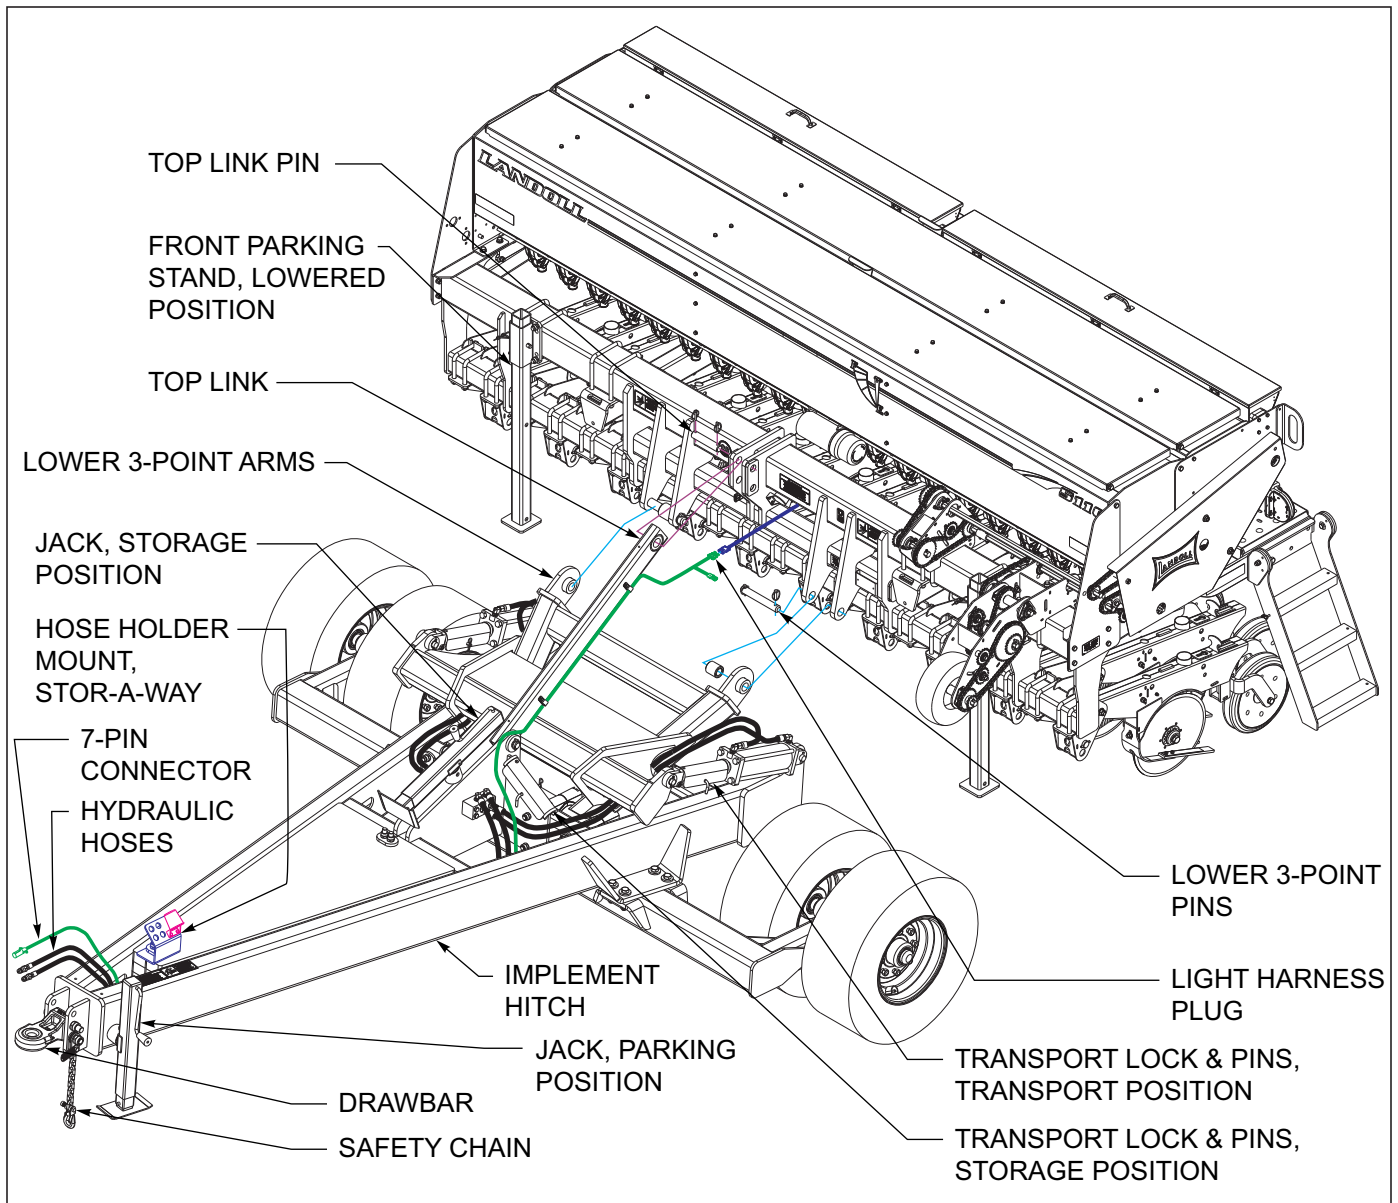
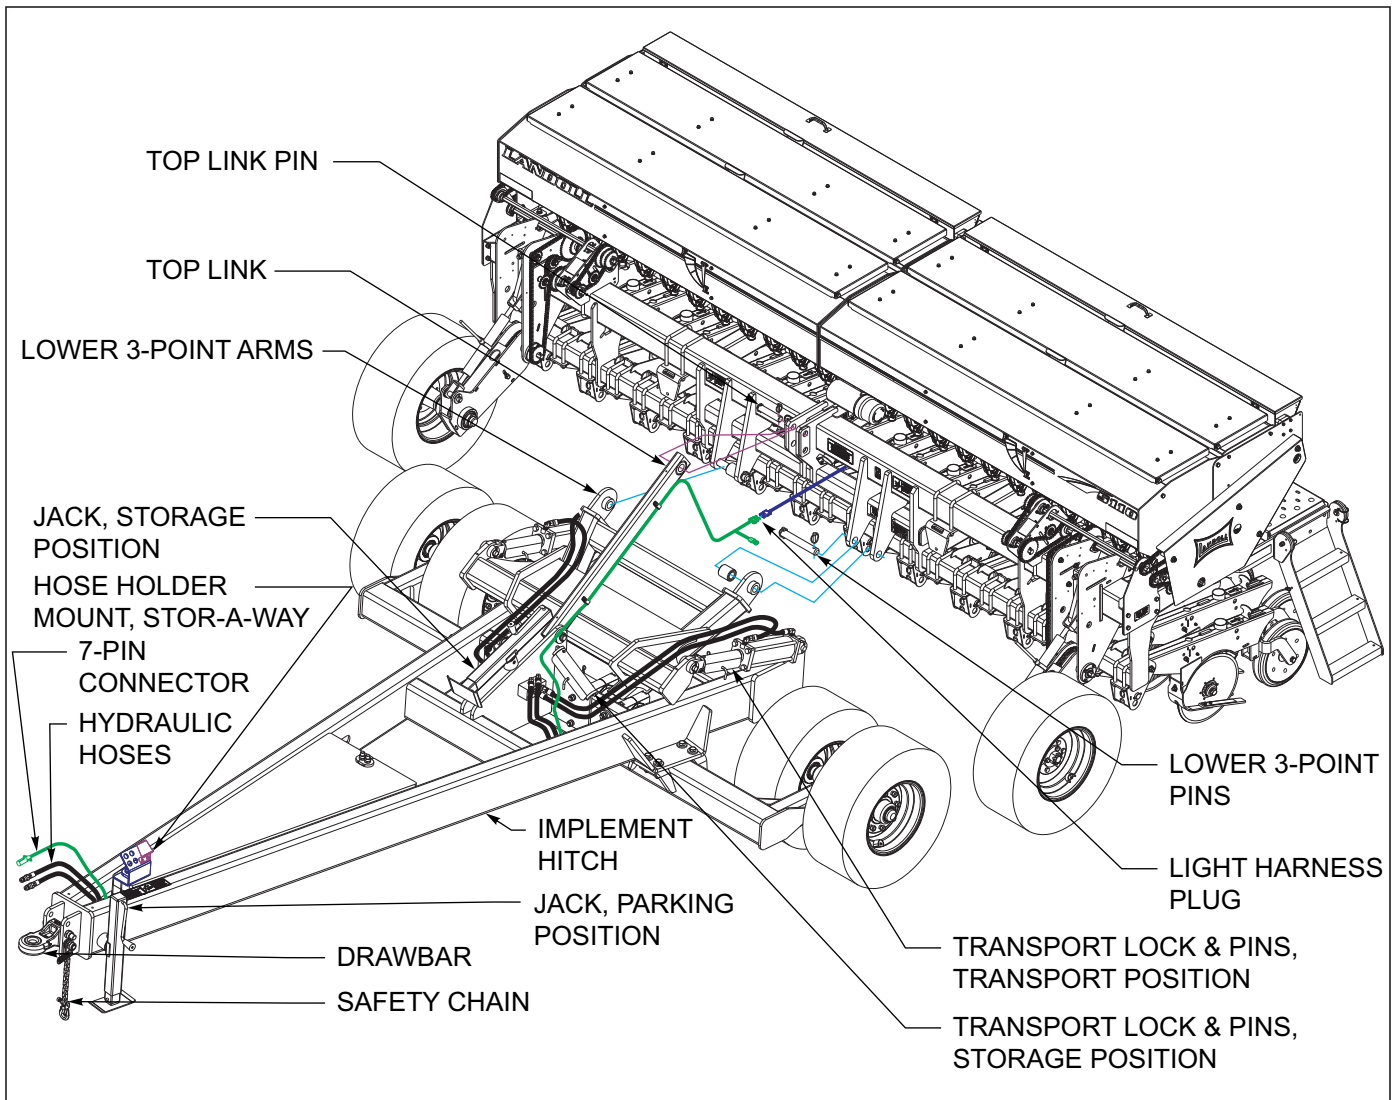

Figure 4-12: Removing Drill from Pull Hitch 5110-12-1/2'
Figure 4-13: Removing Drill from Pull Hitch 5110-15'
2. To park the drill and remove pull hitch, model 5110-12-1/2' *See Figures 4-12* or model 5110-15' *See Figures 4-13*: